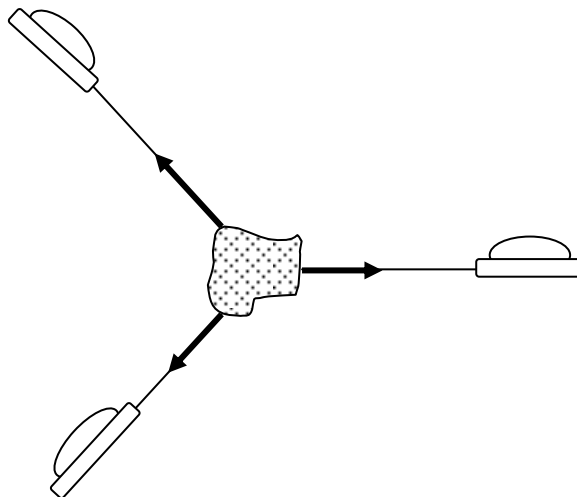

Figure 3.4: Non-Concurrent, Non-Parallel Forces
1. Fig.3.4 shows three spaceships pulling on an asteroid. Which way will the asteroid move? Will it rotate? The answers to these questions depend on the total force and the total torque acting on the asteroid. But any force acting on a body can produce both translational motion (movement of the center of the mass the body in the direction of the force) and rotation. In this experiment you will investigate the interplay between forces and torques by examining all the forces acting on a body in physical equilibrium.